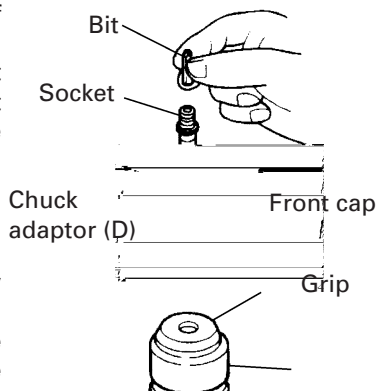

Fig. 15
4. When driving machine screws (Fig. 15)
5. When driving wood screws (Fig. 15)